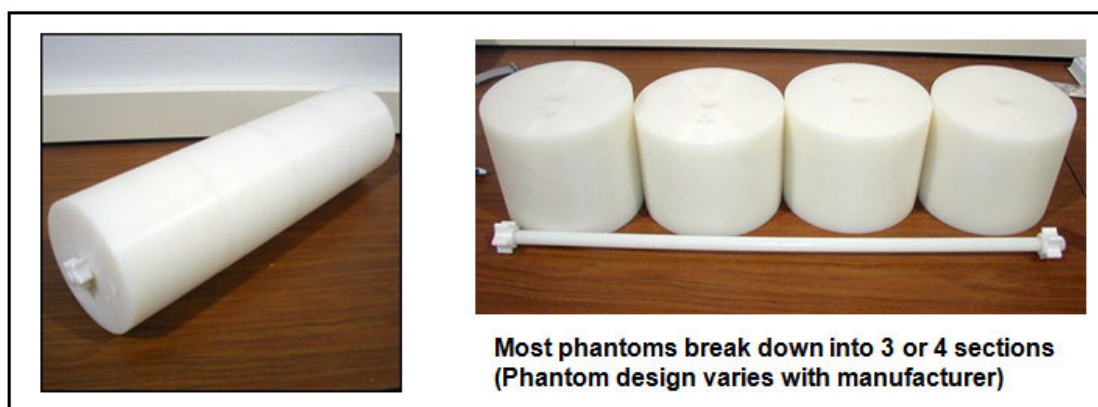

Figure 5.1: Example of a NEMA Scatter Phantom
1. Assemble the solid phantom sections as shown in Figure 5.1.